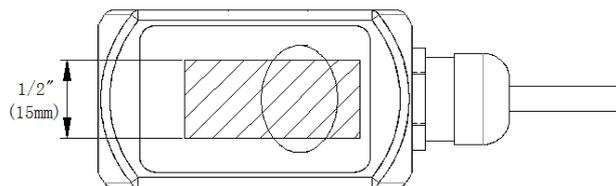

Figure 2.2
5. Place a single bead of couplant, approximately 0.05 inch [1.2 mm] thick, on the flat face of the transducer. See **Figure 2.2**. Generally, a silicone-based grease is used as an acoustic couplant, but any grease-like substance that is rated to not “flow” at the temperature that the pipe may operate at, will be acceptable.